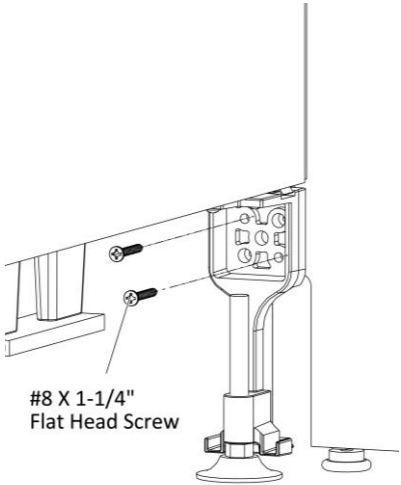

Figure 3
- 6. Drive two #8 X 1-1/4" Flat Head Screws through the holes in the standard panel leg into the pre-drilled holes of the gallery panel, (Figure 3).